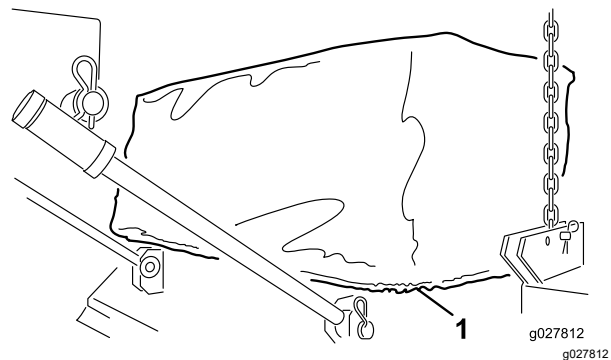

Figure 4
4. Install the canvas ring around the lip on the Versa Vac and deck openings (Figure 4).